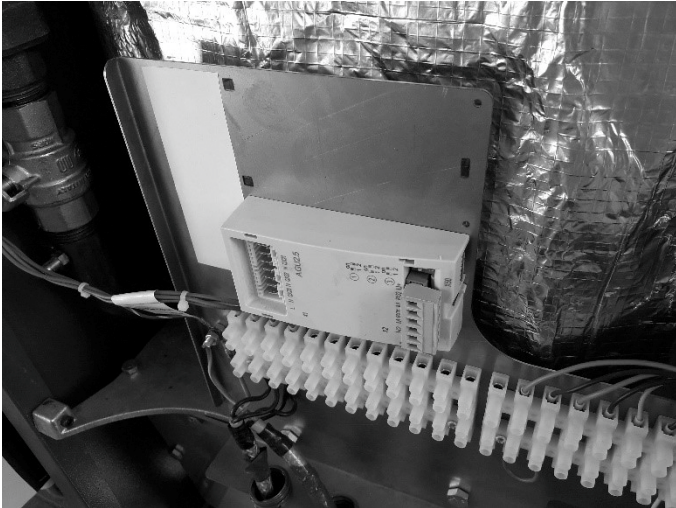

Figure 3: Single Extension Module for Single Heat Circuit Expansion Kit
- ◆ Add either one or two Extension modules for either the single heating circuit or two heating circuit expansion kit into the metal frame below the boiler controls (see figures 3 and 4).